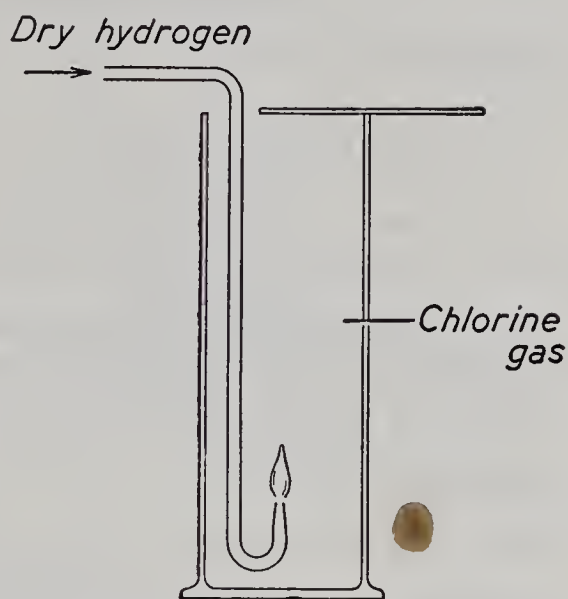

Fig. 65. The combustion of hydrogen in chlorine.
5. (*Demonstration*) Set up a hydrogen generator and attach a glass jet of the shape shown in Fig. 65. When an inverted test-tube filled with hydrogen collected from the jet burns quietly, indicating the evolution of pure hydrogen, light the jet with the burning hydrogen and lower the burning jet into a bottle filled with chlorine. When the flame goes out remove the hydrogen jet and fill the hydrogen generator with water. Insert a piece of moist neutral litmus paper into the bottle. Blow your breath across the mouth of the gas bottle.